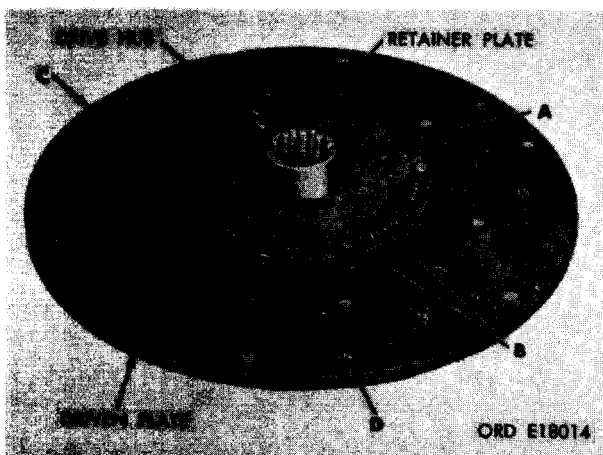

FIGURE 91. REMOVING CLUTCH FACINGS FROM DRIVEN MEMBER ASSEMBLY.
- (3) Figure 91. (A) Check driven member drive hub for worn splines and for looseness on driven plate. (B) Check for broken or missing damper springs and for loose rivets securing retainer plate to driven plate. (C) Inspect clutch facings for burned condition, looseness, or damage. (D) Drill off star set on 30 rivets securing clutch facings to driven plate. Drive out remainder of 30 rivets. Remove two facings.